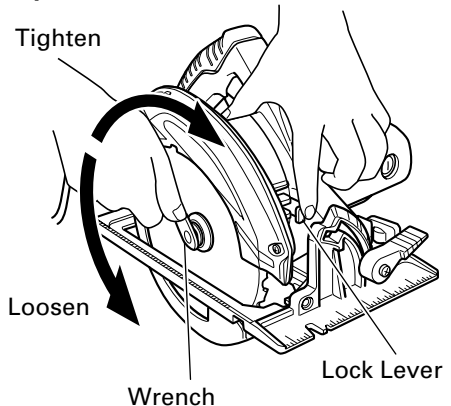
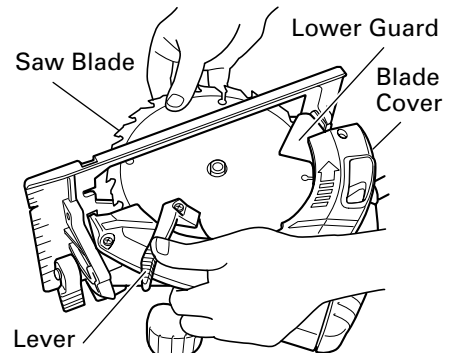

Fig. 16
Fig. 17
- (1) Set the cutting volume at maximum, and place the Circular Saw as shown in Fig. 16.
- (2) Depress the lock lever, lock the spindle, and remove the hexagonal-flange bolt and washer (B) with the wrench.
- (3) While holding the lever to keep the lower guard fully retracted into the blade cover, remove the saw blade. (Fig. 17)